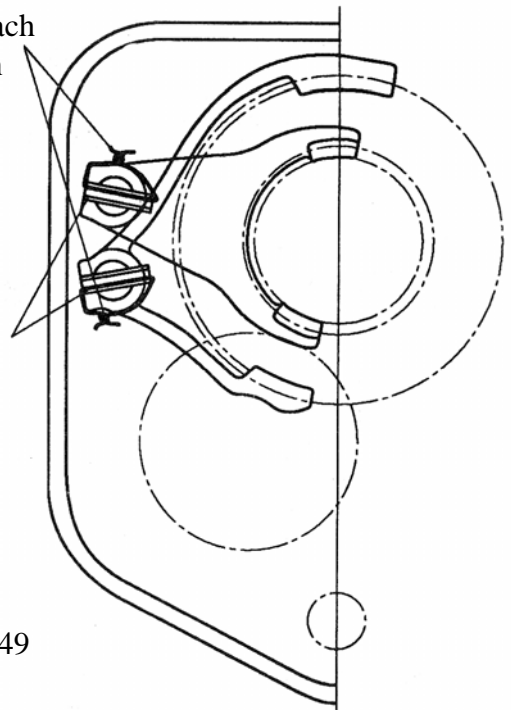

Fig.5-49
- Install spring (roll) pins so that their seams are positioned as illustrated in Fig.5-49
**(2) Reassembly of sub-change gears